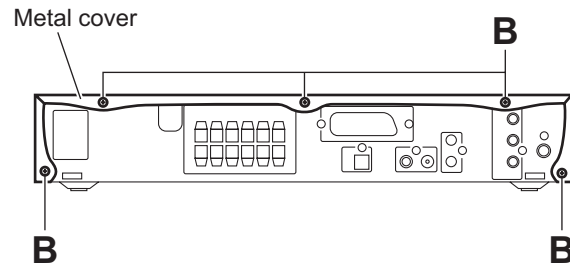

Fig.3
- (2) From the back side of the main body, remove the five screws **B** attaching the metal cover. (See Fig.3.)